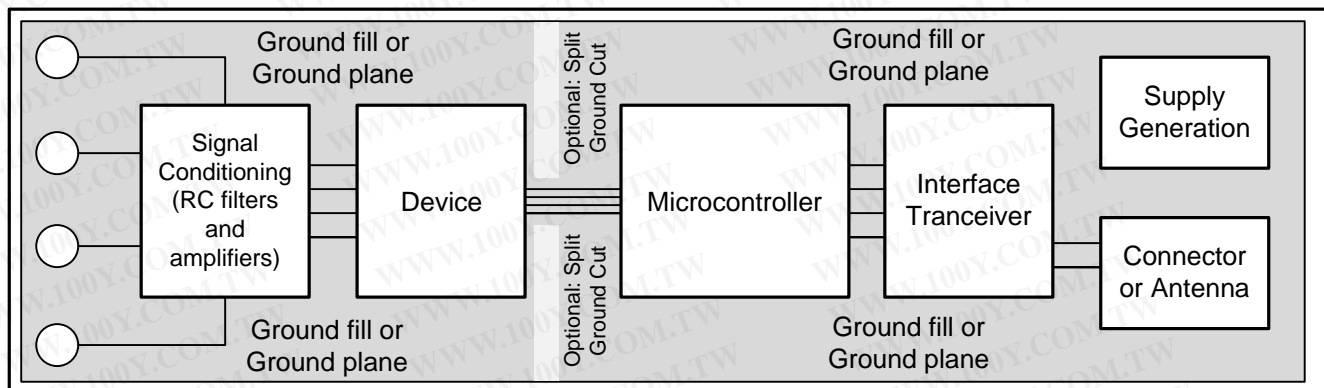

Figure 68. System Component Placement
TI recommends employing best design practices when laying out a printed circuit board (PCB) for both analog and digital components. This recommendation generally means that the layout should separate analog components [such as ADCs, amplifiers, references, digital-to-analog converters (DACs), and analog MUXs] from digital components [such as microcontrollers, complex programmable logic devices (CPLDs), field-programmable gate arrays (FPGAs), radio frequency (RF) transceivers, universal serial bus (USB) transceivers, and switching regulators]. An example of good component placement is shown in Figure 68. While Figure 68 provides a good example of component placement, the best placement for each application is unique to the geometries, components, and PCB fabrication capabilities employed. That is, there is no single layout that is perfect for every design and careful consideration must always be used when designing with any analog component.